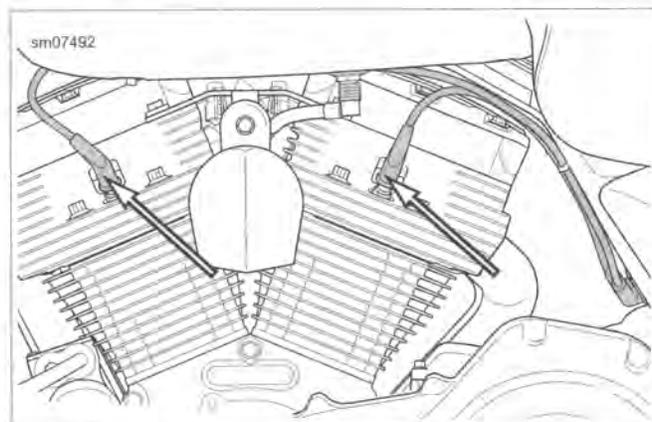

Figure 1-37. Spark Plug Wires
3. See Figure 1-37. Connect spark plug cables. Verify cables are connected to coil, spark plugs and anchor clips or harness caddies.